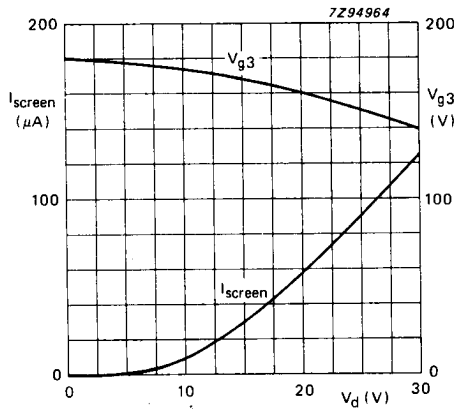

Fig. 5 Screen current (I_{screen}) and focusing voltage (V_{g3}) as a function of grid drive voltage (V_d); typical curves.
5. An actual focus range of 30 V should be provided on the front panel. V_{g_3} decreases with increasing grid drive (see also Fig. 5).
6. Intensity control on the front panel should be limited to the maximum useful screen current (approx. 50 μ A; see also Fig. 5). It is to be adjusted either by the grid drive (up to 22 V) or for maximum acceptable line width. The corresponding cathode current or I_{g_2, g_4} (up to 500 μ A) depend on the cut-off voltage and cannot be used for control settings.